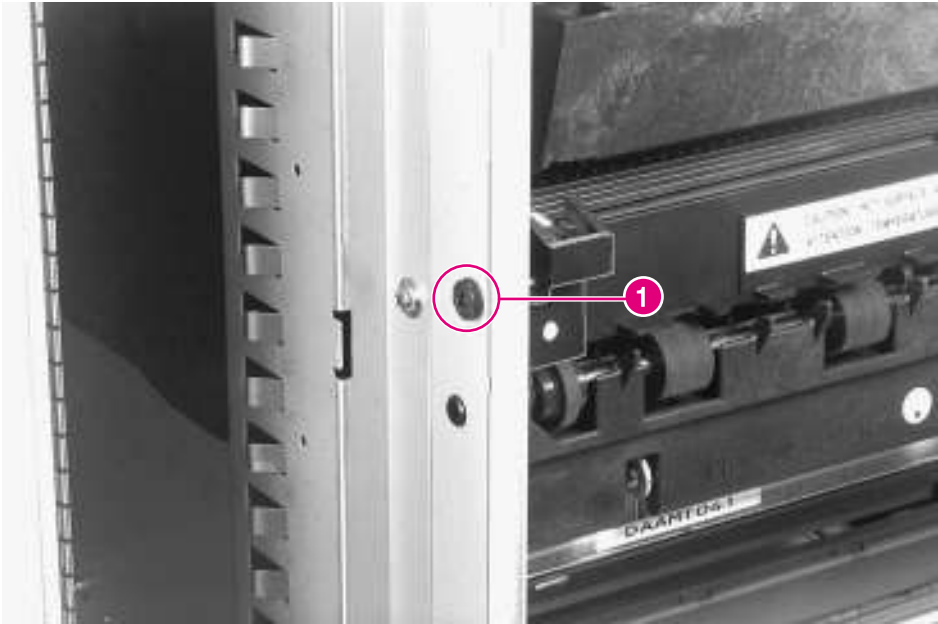

Figure 6-61 Face-up Solenoid Assembly, SL3
- 3 Remove 1 self-tapping screw (figure 6-61, callout 1).